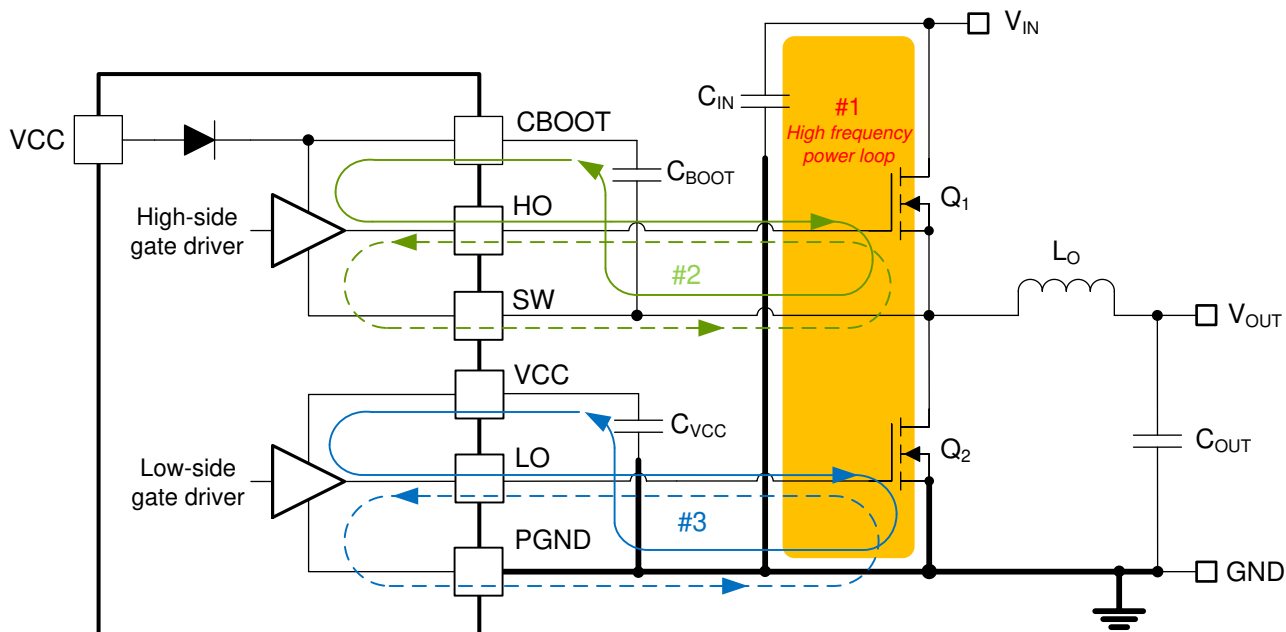

FIG 9-46. DC/DC Regulator Ground System With Power Stage and Gate Drive Circuit Switching Loops
Proper PCB design and layout is important in a high-current, fast-switching circuit (with high current and voltage slew rates) to achieve a robust and reliable design. As expected, certain issues must be considered before designing a PCB layout using the LM5148. The high-frequency power loop of a buck regulator power stage is denoted by loop 1 in the shaded area of Figure 9-46. The topological architecture of a buck regulator means that particularly high di/dt current flows in the components of loop 1, and it becomes mandatory to reduce the parasitic inductance of this loop by minimizing its effective loop area. Also important are the gate drive loops of the high-side and low-side MOSFETs, denoted by 2 and 3, respectively, in Figure 9-46.
- Loop 1: The most important loop area to minimize is the path from the input capacitor or capacitors through the high- and low-side MOSFETs, and back to the capacitor or capacitors through the ground connection. Connect the input capacitor or capacitors negative terminal close to the source of the low-side MOSFET (at ground). Similarly, connect the input capacitor or capacitors positive terminal close to the drain of the high-side MOSFET (at VIN). Refer to loop 1 of FIG 9-46.
- The SW pin connects to the switch node of the power conversion stage and acts as the return path for the high-side gate driver. The parasitic inductance inherent to loop 1 in FIG 9-46 and the output capacitance ( $C_{OSS}$ ) of both power MOSFETs form a resonant circuit that induces high frequency (greater than 50 MHz) ringing at the SW node. The voltage peak of this ringing, if not controlled, can be significantly higher than the input voltage. Make sure that the peak ringing amplitude does not exceed the absolute maximum rating limit for the SW pin. In many cases, a series resistor and capacitor snubber network connected from the SW node to GND damps the ringing and decreases the peak amplitude. Provide provisions for snubber network
- Loop 2: high-side MOSFET, Q1. During the high-side MOSFET turnon, high current flows from the bootstrap (boot) capacitor through the gate driver and high-side MOSFET, and back to the negative terminal of the boot capacitor through the SW connection. Conversely, to turn off the high-side MOSFET, high current flows from the gate of the high-side MOSFET through the gate driver and SW, and back to the source of the high-side MOSFET through the SW trace. Refer to loop 2 of Figure 9-46.
- Loop 3: low-side MOSFET, Q2. During the low-side MOSFET turnon, high current flows from the VCC decoupling capacitor through the gate driver and low-side MOSFET, and back to the negative terminal of the capacitor through ground. Conversely, to turn off the low-side MOSFET, high current flows from the gate of the low-side MOSFET through the gate driver and GND, and back to the source of the low-side MOSFET through ground. Refer to loop 3 of Figure 9-46.